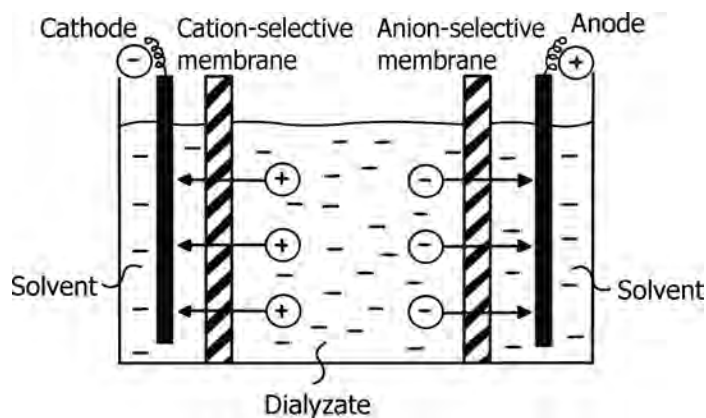

FIGURE 18.63 Electro dialysis.
- Figure 18.63 illustrates the principle involved in electro dialysis.